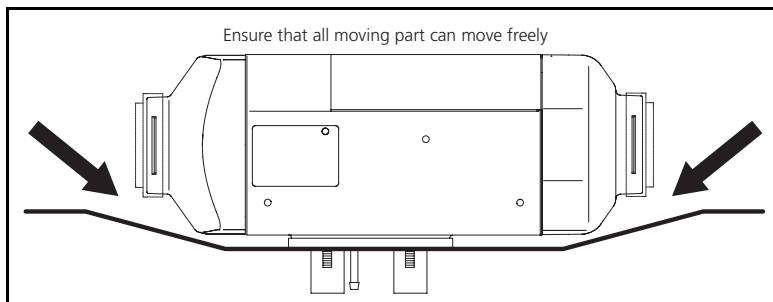

Figure 6. Installation
**👉 IMPORTANT!** *After installation, check that the heater casing is not in contact with any parts of the vehicle body. A failure to do this may result in the hot air fan binding internally (Figure 6).*